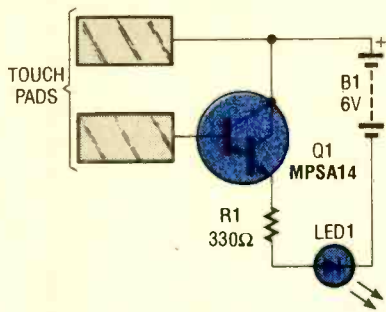

Fig. 1. The entire circuit consists of a battery, a current-limiting resistor, an LED, a Darlington transistor, and two metallic touch pads.
**Circuitry.** A circuit can't get much simpler than that of the Illuminator. Basically the entire circuit consists of a battery, a current-limiting resistor, an LED, and a Darlington transistor to turn on the LED (see Fig. 1). There are also two pieces of adhesive-backed metal tape that are used as the touch pads.
So, an ordinary transistor isn't of much use as a touch switch because the current gain is simply not high enough. But if we take two ordinary NPN transistors, and arrange them in a Darlington configuration (look back at Fig. 1), the slight current gain of the first transistor provides more than enough current to turn on the second transistor, which can then easily power a load—in our case, an LED.
If you can't find the Darlington we used, or a similar one that will work just as well, you can take two ordinary 2N2222 transistors (they have a gain of about 100), arrange them as shown inside Q1 in Fig. 1, and you'll then have the functional equivalent of the part we used.